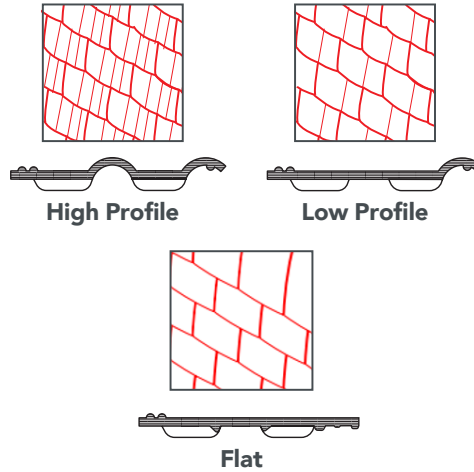

Figure 1: Detailing
- flashing be lapped at joints by a minimum of 150mm and extend 150mm over the vertical tile where flashing is required (see Figures 1–2);